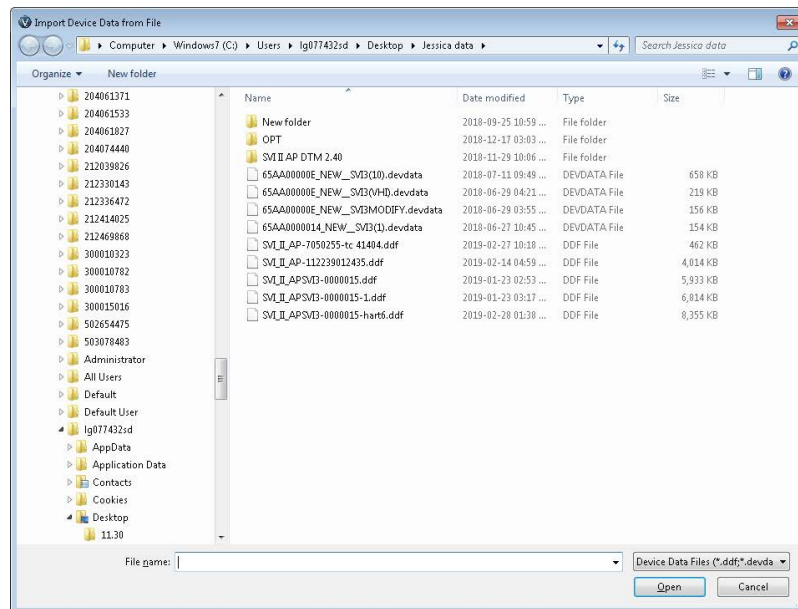

Figure 40 Import and Add New Device
1. Select the device in the topology tree at the communications DTM level, right-click and select **Import and Add New Device** and Figure 40 appears.